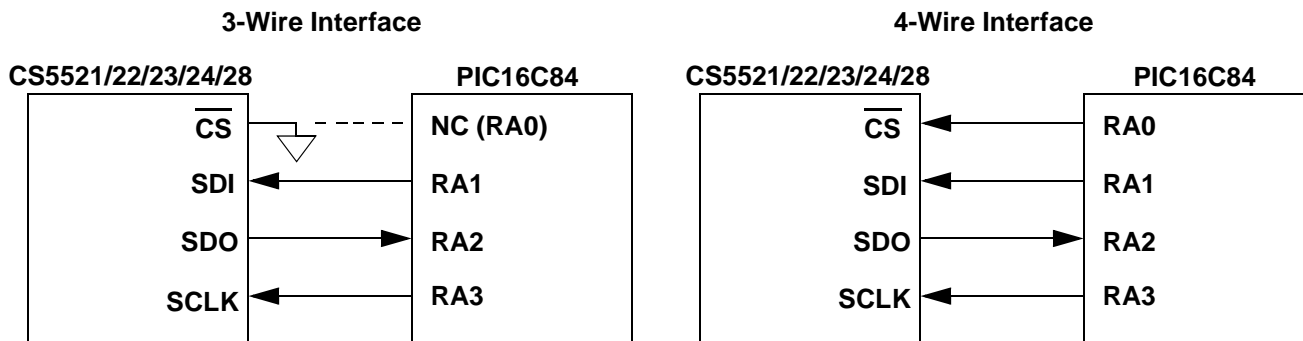

Figure 1. 3-Wire and 4-Wire Interfaces
The CS5521/22/23/24/28 interfaces to the PIC16C84 through either a three-wire or a four-wire interface. Figure 1 depicts the interface between the two devices. Though this software was written to interface to Port A (RA) on the PIC16C84 with a four-wire interface, the algorithms can be easily modified to work with the three-wire format.
Initialize is a subroutine that configures Port A (RA) on the PIC16C84 and places the serial port of the CS5521/22/23/24/28 into the command state. RA's data direction is configured as depicted in Figure 1 by writing to the TRISA register (for more information on configuring ports, see the PIC16C84 Data Sheet). The controller then enters a number of delay states to allow the appropriate time for the ADC's oscillator to start up and stabilize (oscillator start-up time for a 32.768 KHz crystal is typically about 500ms). Finally, the ADC's serial port is reset by sending fifteen bytes of logic 1's followed by a single byte with its LSB at logic 0 to SDI (the serial port is initialized after any power-on reset, and this software re-initialization is for demonstration purposes) Once the proper sequence of bits has been received, the serial port on the